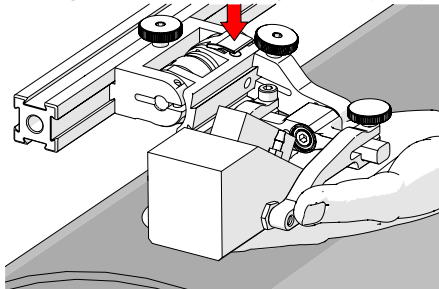

Fig. 52 - Lift and press latch button
3. Lift the probe slightly and press the latch button (Fig. 52) to apply spring pressure to the wedge.